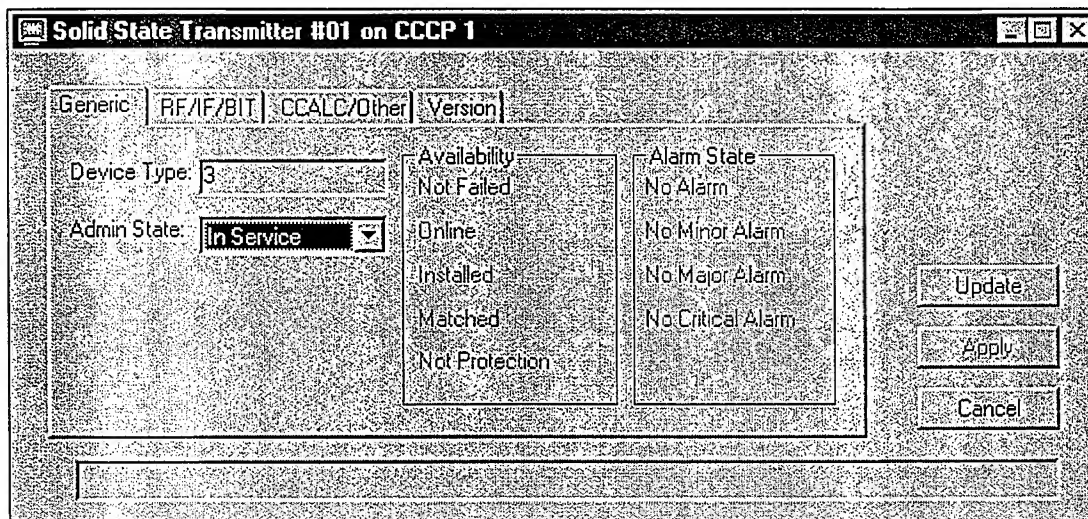

Figure 24. Solid State Transmitter Window Generic Tab
3. In the Object Tree pane, double-click the transmitter assigned to this Base Channel Group to open the Solid State Transmitter window (see Figure 24).